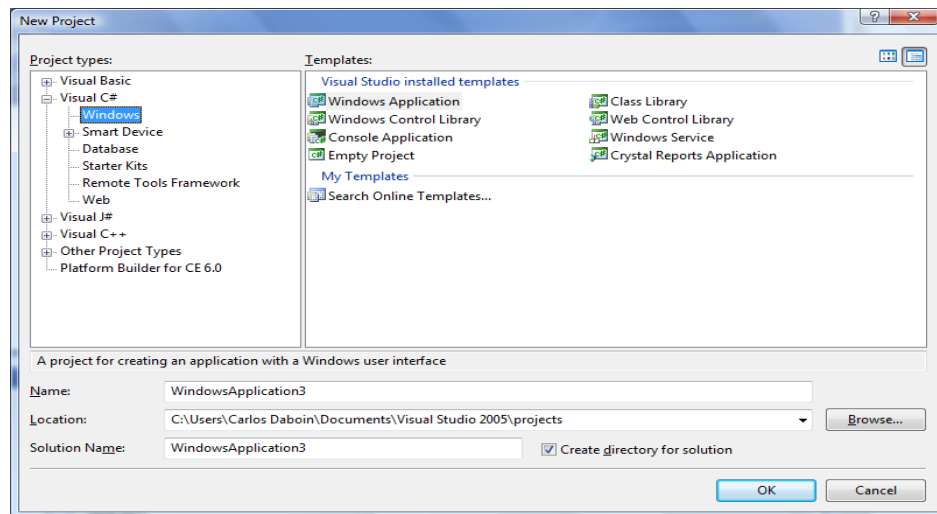

Figure 58. New Project Window
1. From Visual Studio 2005 IDE, Select File => New => Project, the following new project screen will appear as shown in figure 58.
2. Expand Visual C#, to select Windows as shown in figure 58.
3. Then, select => Windows Application, and enter Your Application Name as the project name as shown in figure 58.